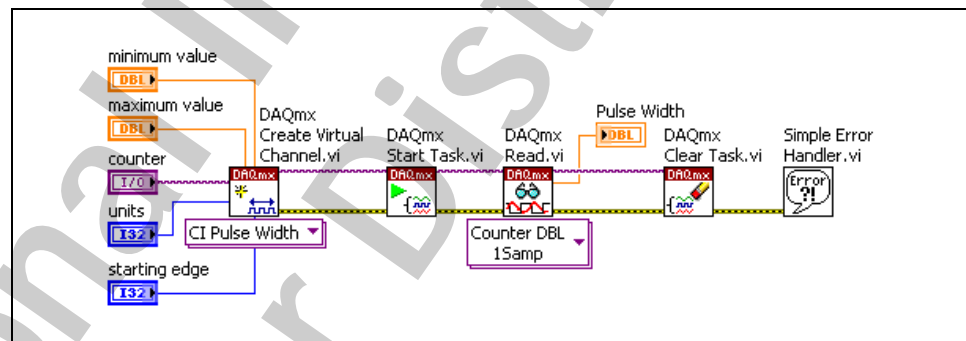

Figure 6-13. Pulse Width Measurement VI Block Diagram
2. Modify the block diagram of the Pulse Width Measurement VI to measure pulse width, as shown in Figure 6-13, using the following items:
- Modify the block diagram of the VI to measure frequency using the low frequency with one counter method, as shown in Figure 6-13, using the following items: